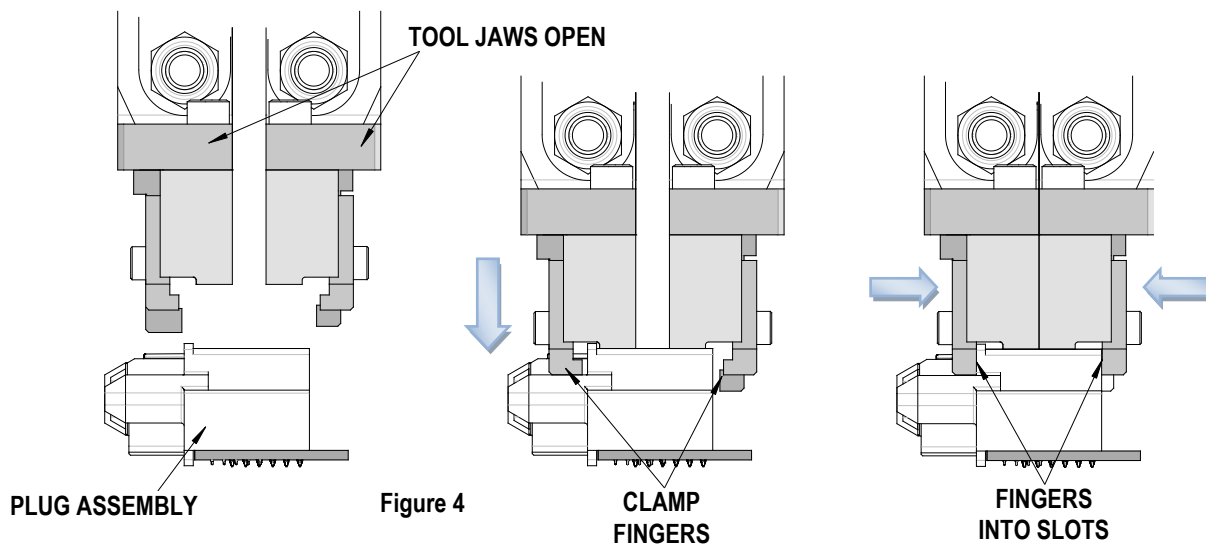

Figure 4
3. Position the grooves of the clamp fingers in-line with the small slots in the front and back of the housing. See Figure 4.